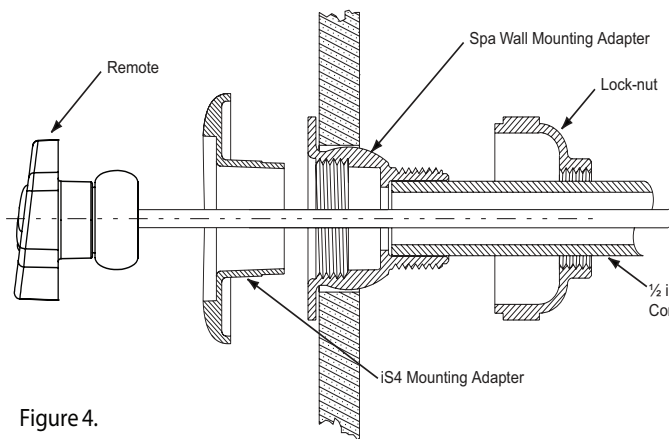

Figure 4.
2. Orient iS4 Mounting Adapter to optimize usage by spa occupant per Figure 4.